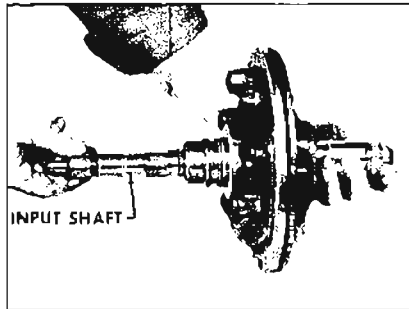

Figure 5-320
4. Coat input shaft oil rings with oil and install into oil pump. Then install pump into case. Apply a thin coat of oil around edge of pump. See Figure 5-320.